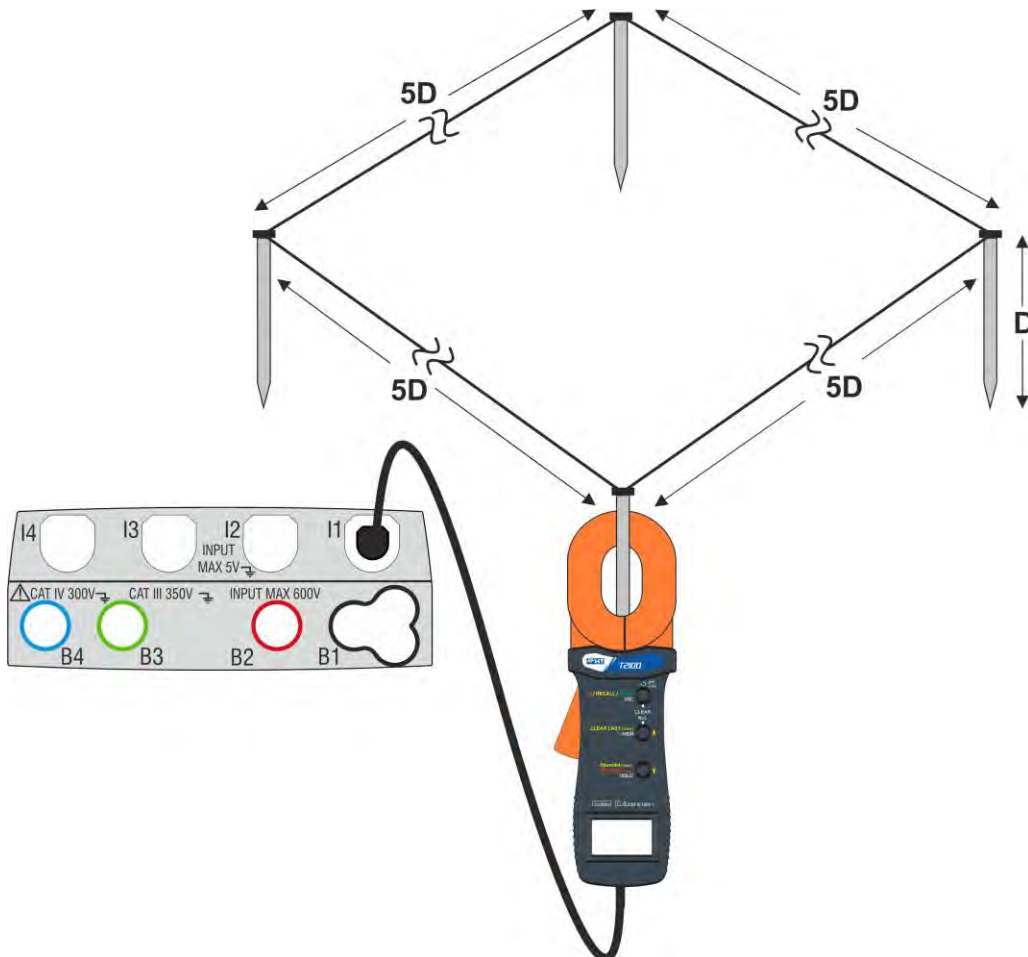

Fig. 31: Resistance measurement of single rods with clamp T2100
The measurement carried out by clamp T2100 can be used to evaluate single rods resistance values within an earth installation without disconnecting the rods, **assuming they do not affect each other** (see Fig. 31).
4. Connect the clamp to the first rod of the earth network considered as shown in Fig. 31. Note the value of the resistance in the **R** field and press the icon to insert this value in the calculation of parallel resistance and increase the **N** parameter by one unit (**N** =1)